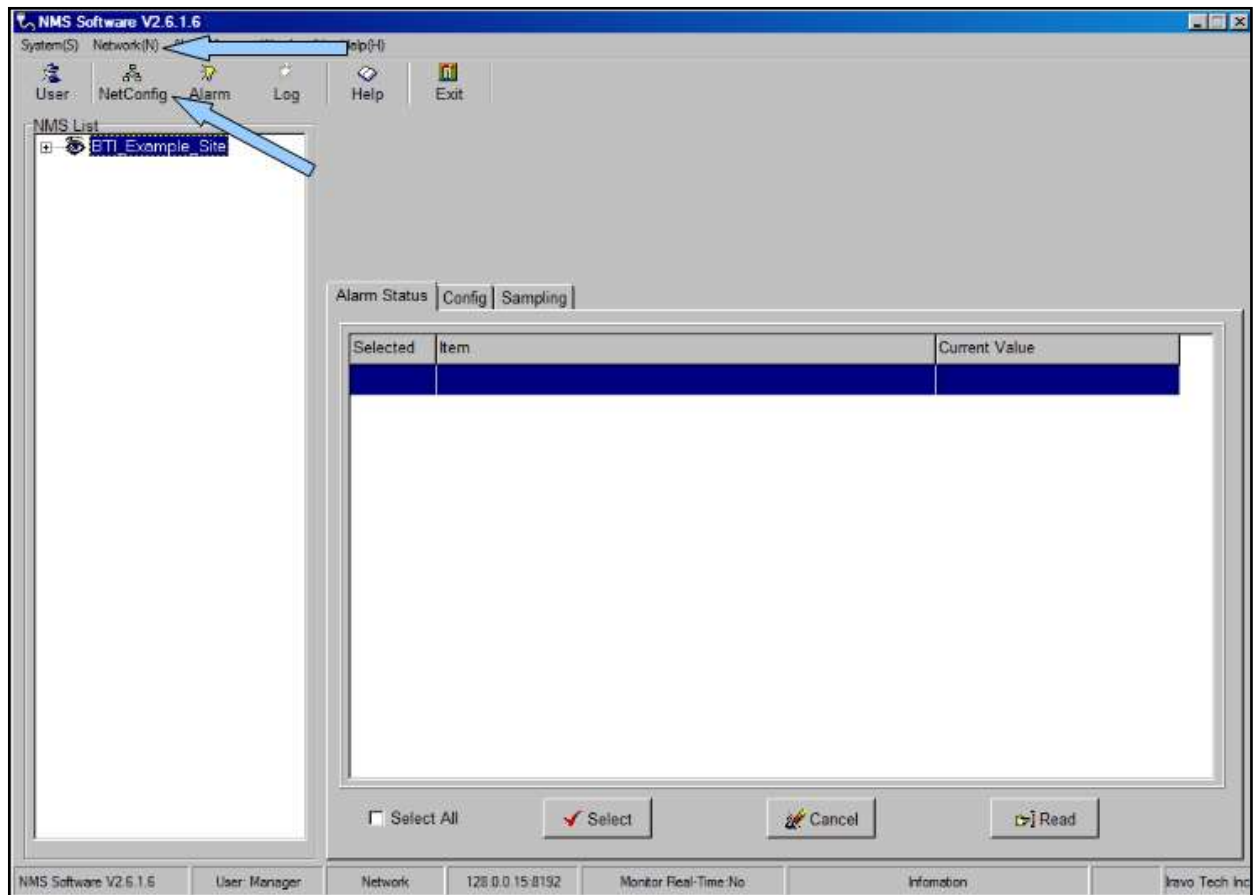

Figure 5-5. Accessing the Network Configuration screen
Once installed and software configurations are complete, the network must be configured and activated. The first half of this section details the initial functions necessary for a basic system activation through the NMS. The second half details in-depth information for network system parameters. Access to the DAS system configuration Net Config Manager is through the *Network(N)* menu bar drop-down or the Net Config Command bar button, **Figure 5-5**, the ALT key + (N) or the Netconfig Icon on the Command bar. The DAS *Net Config* Manager includes the ability to access the following functions:
*The NMS software provides an example configuration as shown in **Figures 5-5 and 5-6**. The example may be deleted or the example information may be overwritten with customer specific information and then saved by clicking the **Modify** button. For the purposes of this installation manual, the example has been deleted to provide the most accurate details.*
1. Access the *Network Config* screen, **Figure 5-5**, via the *NetConfig* Icon on the Command bar, using ALT + (N) or the *Network(N)* menu drop-down.